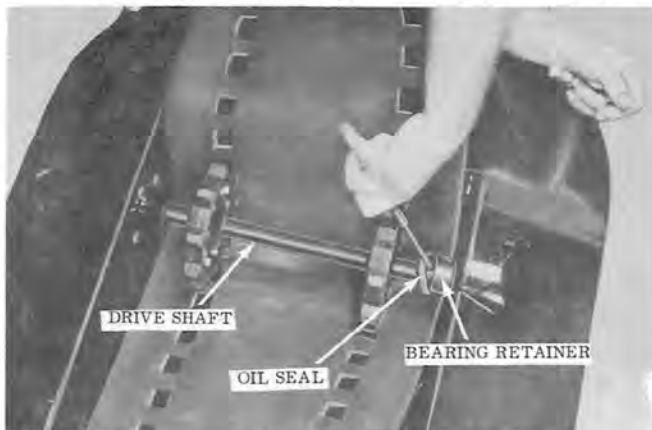

Figure 23
- a. With a screwdriver or similar tool carefully pry out rubber oil seal from the bearing container on the drive shaft (See Figure 23) on both right and left hand sides.